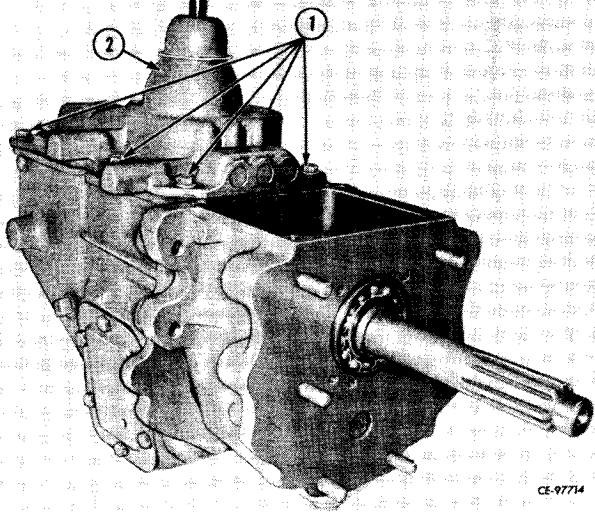

Figure 4-72
Install a new gasket on transmission housing and slowly position shift control housing (2, Fig. 4-72) on transmission housing. Align shifting forks with proper gears. Install and tighten cap screws and lock washers (1).